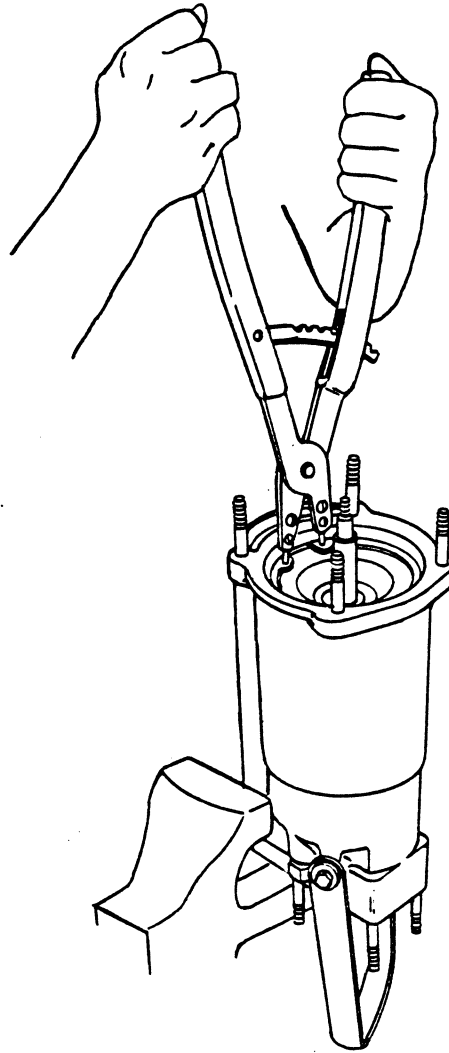

Figure 6. Removing Intermediate Retaining Ring
Use a large snap ring pliers to remove the retaining ring (12) which retains the intermediate in the motor housing. See Figure 6.
Install the wavy spring washer (23) in the bottom of the motor housing bearing bore. Carefully install the rotor in the motor housing until the intermediate is below the retaining ring groove. Install the retaining ring (1). See Figure 6.